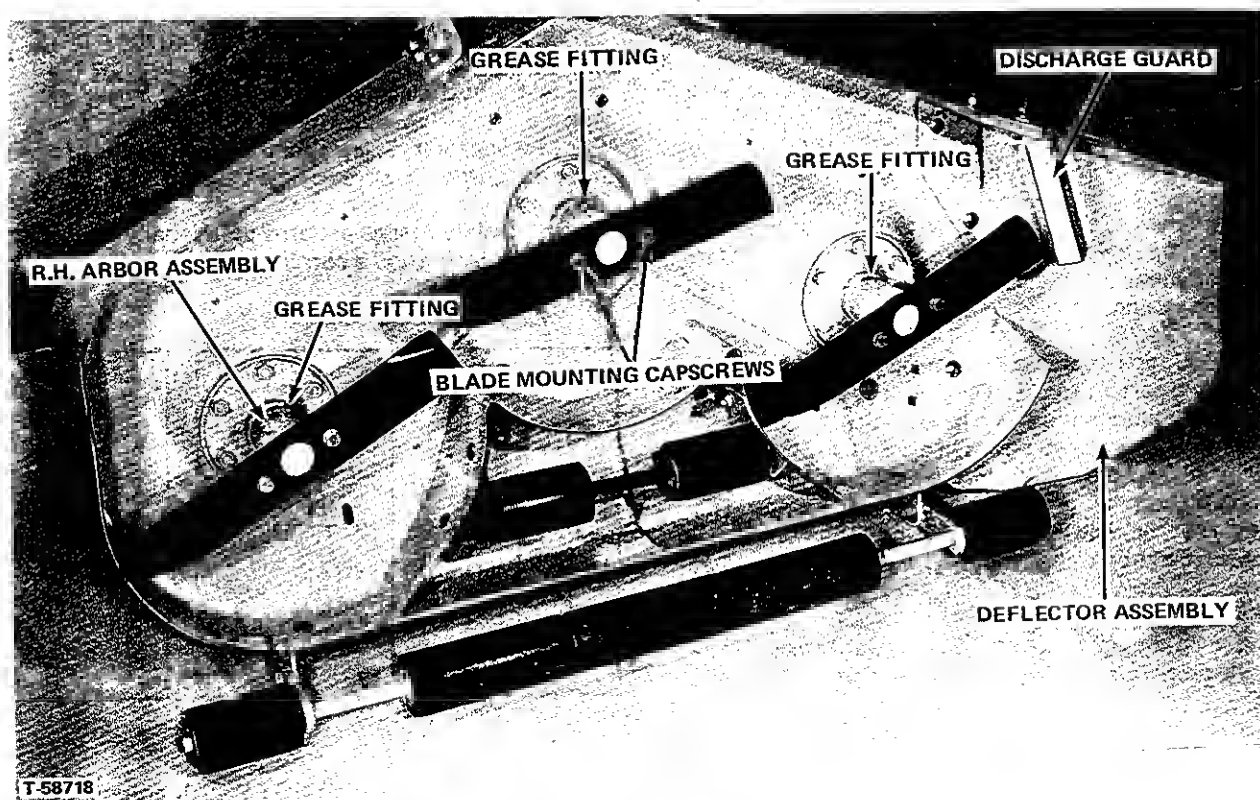

Figure 14.
1. See Figure 14. The grease fittings in each of the arbor assemblies, should be given about five shots of No. 2 lithium base gum grease every 50 hours of operation and at the end of cutting season.
### BLADE REPLACEMENT (See Figure 14)